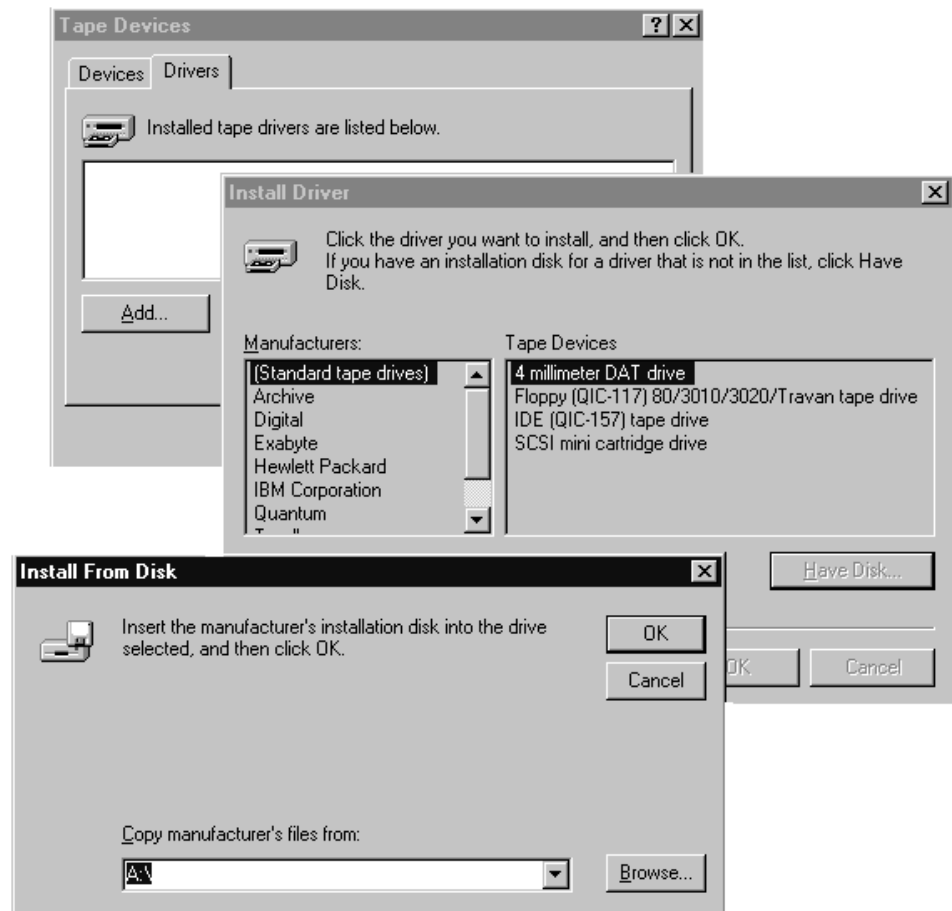

Figure 16. Have Disk Menu
7. If you installed the **Device Driver System Files** component in step 4 on page 160 , **skip to step 8** on page 166. If you did not install the **Device Driver System Files** component, click **Have Disk...** and enter the directory where your device driver setup file (*IBMULtrium.inf*) is located in the **Copy manufacturer's files from:** box. You may also click **Browse...** to select the directory. See Figure 16.